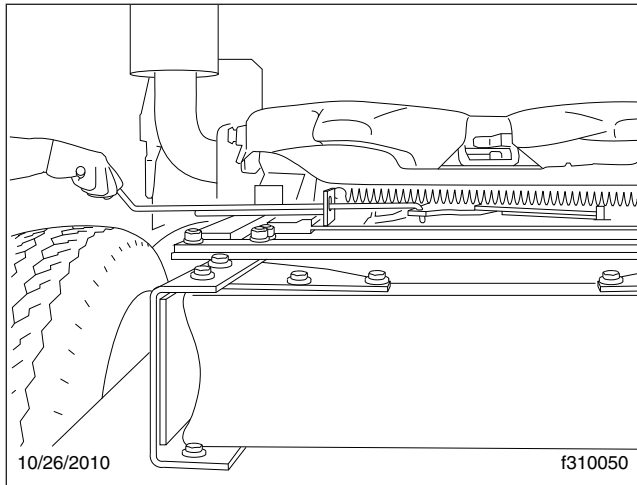

Fig. 18.12, Releasing the Sliding Fifth Wheel, (Fontaine)
- 2.1 **Fontaine:** Lift the slide release pull handle to disengage it from the guide plate. Then, pull out the handle until it is in the unlocked position and can be positioned against the guide plate to hold it out. The handle will stay in the unlocked position until it is manually disengaged from the guide plate. See Fig. 18.12.